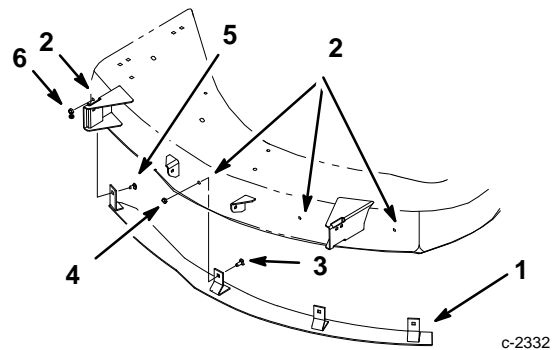

Figure 8
1. Install the “full-bag” indicator rod through the hole in the rubber seal and the slot in the bagger cover (Fig. 8). Mount the full-bag indicator rod against the bagger cover using two clips, 1/4 x 3/4” screws, and 1/4 lock nuts (Fig. 3).
2. Screw the jam nut completely onto the indicator rod (Fig. 8). Then screw the handle (Fig. 8) close to the jam nut so you can read the decal from the operator’s position. Tighten the jam nut up against the handle to lock it in place.
1. Locate baffle inside front and slide to the left side of mower. Right end of baffle should be at or 1/4" inside discharge chute. Using baffle as a guide drill (4) 11/32" holes (Fig. 8).
2. Install the grass baffle inside front lip of mower, using 5/16 x 7/8" carriage bolts and 5/16 lock nuts along the front. At right side use the 1/2" carriage bolt and thin 5/16 lock nut (Fig. 8).